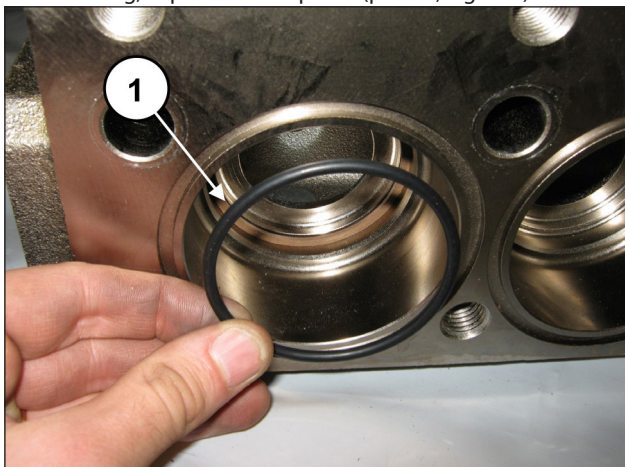

Fig. 154
Fit the O-ring, exploded view pos. 7 (pos. ①, Fig. 154).